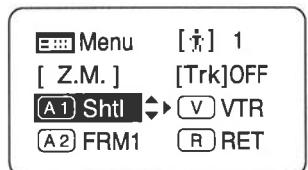

Fig. 5-1
- After using the control key to select the name of the switch key to which the function is to be allocated, push the Set key. The name of the switch and the default or last setting now blink on the display. (Fig. 5-1)